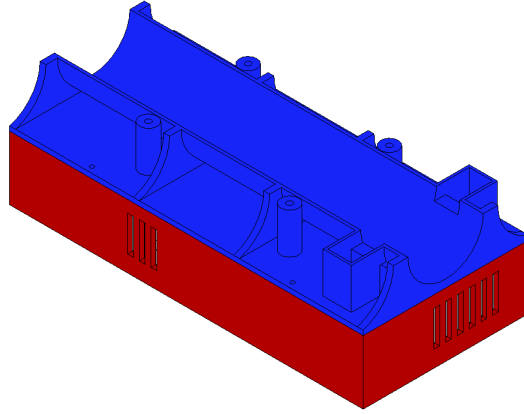

Figure 32: *Lower PVC adapter* mounted on top of the *power supply case*.
2. Attach the *lower PVC adapter* to the top of the *power supply case*. Use four (4) M3 screws for this process. Identify the holes in the top side of the part. These holes are used to hold four (4) M4 inserts. Place the M4 inserts into the holes after heating them. Allow for the inserts to cool down. The assembly is shown on figure 32.